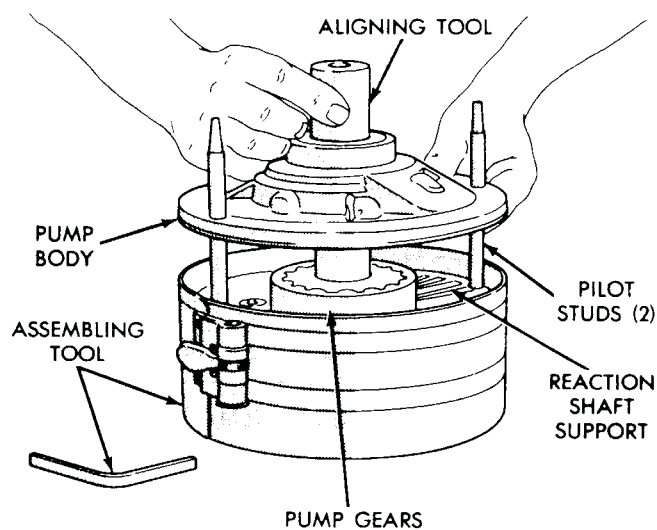

Fig. 12—Assemble Pump and Reaction Shaft Support
(1) Place reaction shaft support in assembling Tool C-3759, with hub of support and tool resting on a smooth, flat surface bench (Fig. 12). Screw two pilot studs Tool C-3283A into threaded holes of reaction shaft support flange.
(2) Assemble and place pump gears in center of the support.
(3) Lower pump body over the pilot studs, insert Tool C-3756 through pump body and engage pump inner gear. Rotate the pump gears with tool to center gears in pump body, then with pump body firm against reaction shaft support, tighten clamping tool securely.
(4) Invert pump and reaction shaft support assembly with clamping tool intact. Install support to pump body bolts and tighten to 175 in. lbs. (20 N·m). Remove clamping tool, pilot studs, and gear alignment tool.
(5) Place a new oil seal in opening of pump housing (lip of seal facing inward). Using Tool C-4193 and Tool C-4171, drive seal into housing until tool bottoms.